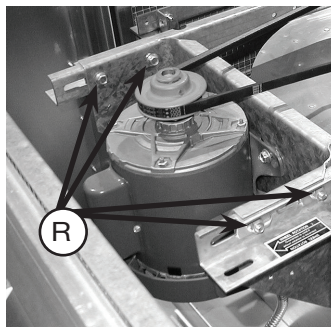

Figure 5
3. Belt tension can be adjusted by loosening four fasteners (marked "R" in Figure 5) on the drive frame. This allows the motor plate to slide on the drive frame angles for proper positioning.